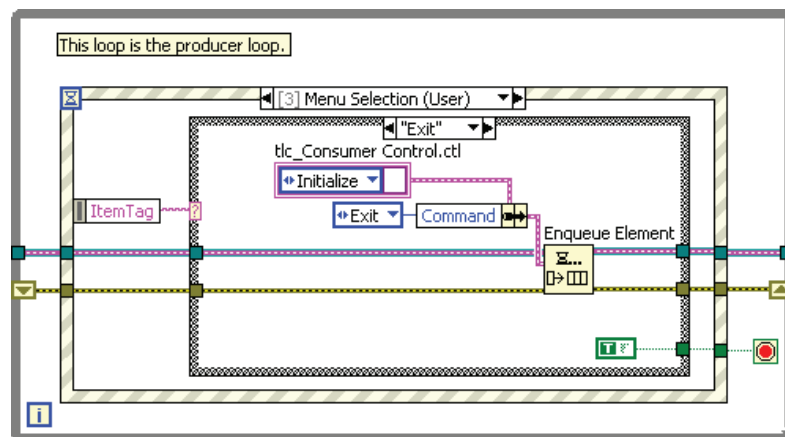

Figure 6-5. Menu Selection Event Case
- ☐ Modify the Exit case to stop the VI when the user selects **File»Exit**, as shown in Figure 6-5. Use the same items that you used for step 9.